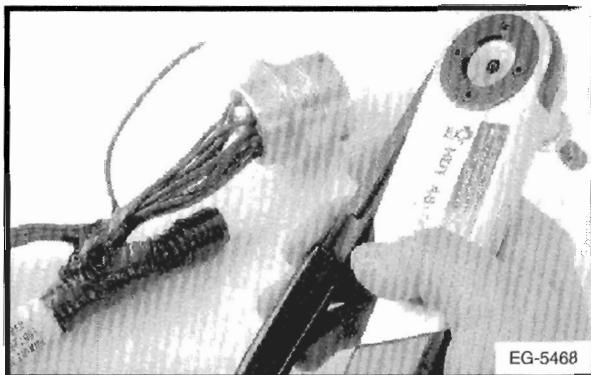

Figure 6-6. – Insert Contact Into Tool
2. Position contact into Deutsch HDT-4800 hand crimping tool (or equivalent) so that the crimp barrel is 1/32 inch above the tool indenters (**Figure 6-6.**). Hold contact in place by hand or by lightly squeezing the tool.